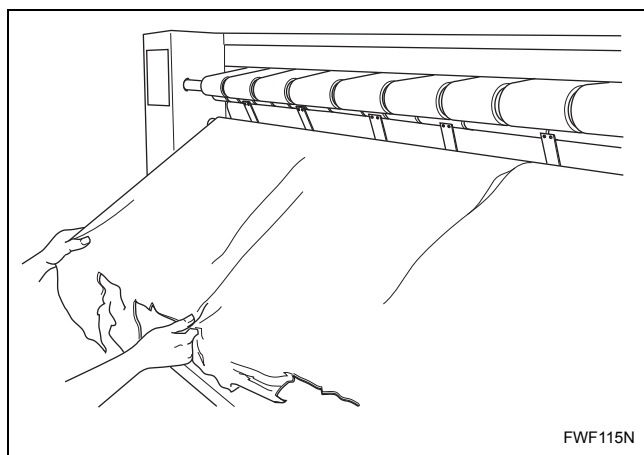

Figure 18
- e. Completely remove protective paper. Refer to *Figure 18*.